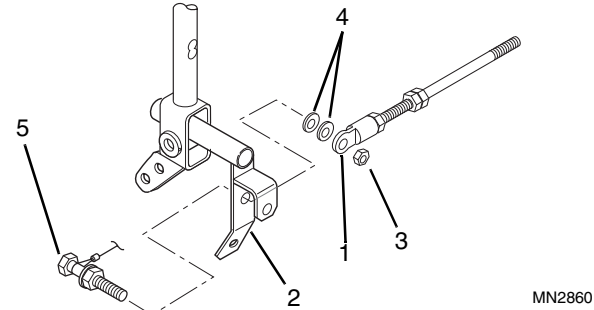

Figure 7-51 Spring Centering Link Installation
4. Connect the spring assembly link rod ball joint (Fig. 7-51, 1) to the right travel/steering lever 4-way pivot (2) by installing capscrew (5), washers (4), and locknut (3), and tighten securely.